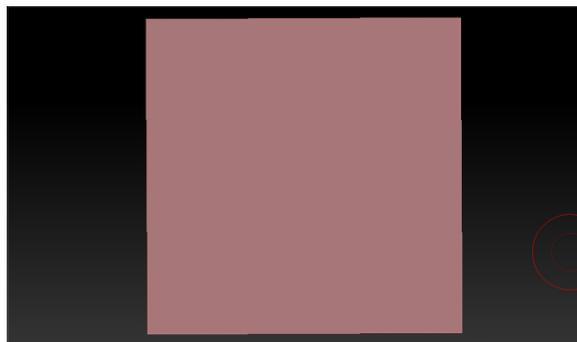

Figure 3-93 The **Plane3D** primitive created on the canvas
- Choose the Current Tool button from the **Tool** palette; a flyout is displayed. Choose the **Plane3D** primitive from this flyout. Press and hold the left mouse button and drag the cursor on the canvas; a plane is created in the canvas, refer to Figure 3-93. Next, choose the **Edit** button from the top shelf to switch to the edit mode.